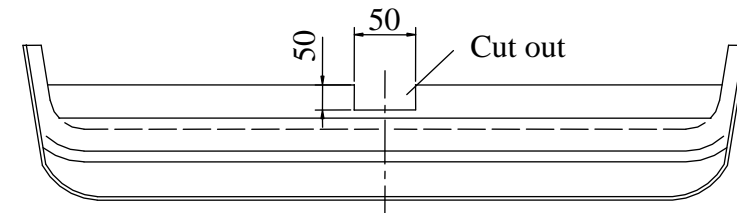

Fig. 2
4. Position the main bar of the towing hitch (pos. 1) to the trunk and fix it with the bracket (pos. 5) through the holes (pos. A) using bolts M10x35mm (pos. 9).
5. Position the sleeves L=58mm (pos. 6) at the bottom of the car, and then fix it through the holes (pos. B) using bolts M10x90mm (pos. 8) and large washers (pos. 10).
6. From the trunk side drill holes $\varnothing 1$ mm through the towing hitch holes (pos. C) and fix it using bolts M10x35mm (pos. 9) and large washers (pos. 10).
7. Cut the bumper according to fig. 2 and then reassemble it.